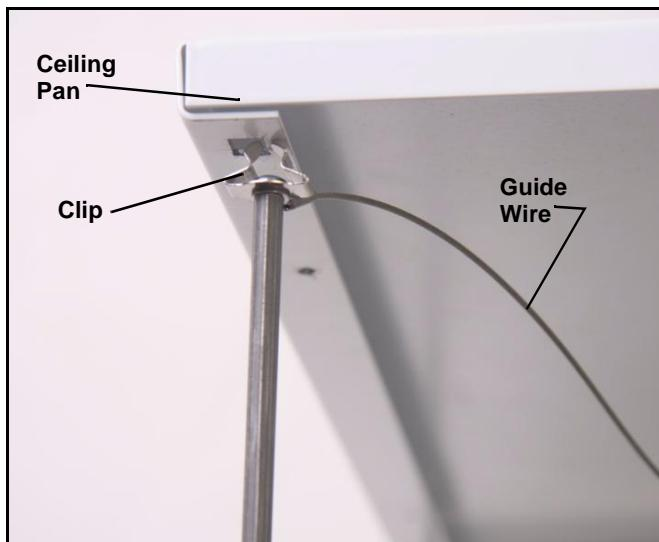

Figure 5
2. Lift up on each corner of ceiling pan to remove pan from clips. (See Figure 5) and (See Figure 6)